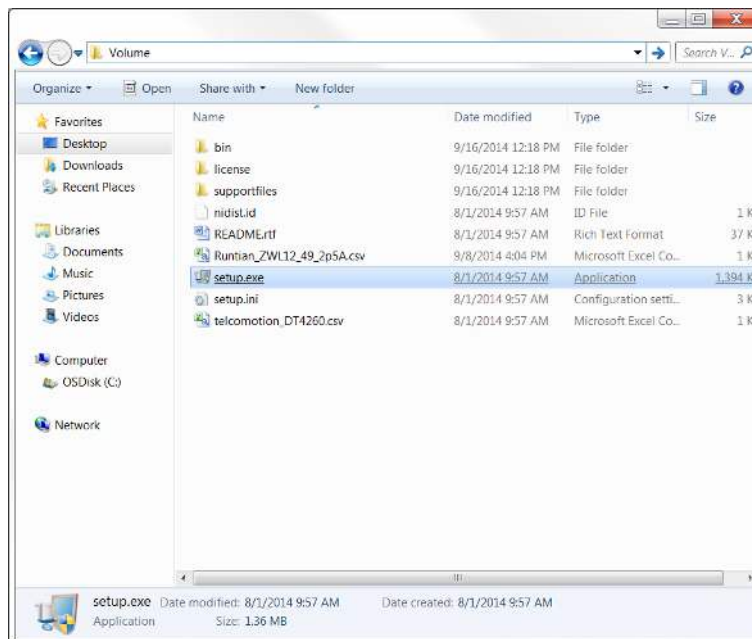

Figure 10. Setup.exe from the Volume Folder
1. Double click on setup.exe from the Volume folder as shown in Figure 10.